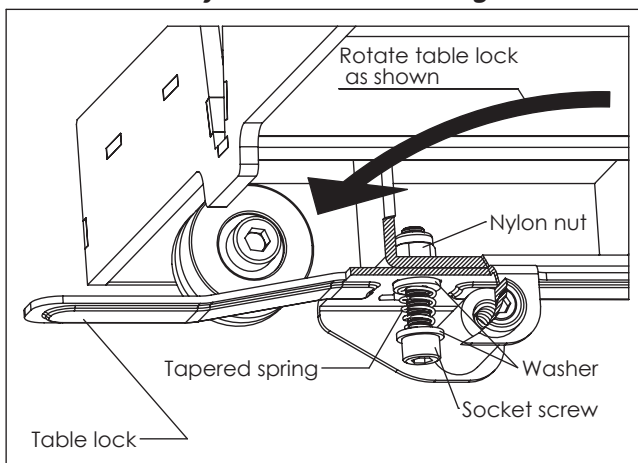

Figure 4: Completing table lock assembly
4. When mounting items #7 and #8 (refer to *Fig. 1*), first rotate the table lock into position as shown in *Fig. 4*. Tighten the socket hex screw enough such that there is about less than 1/2 inch of space between the two washers pressing on the spring. Tighten further as necessary if table lock moves during use. When adjustment is done, tighten the nylon nut (item #15).